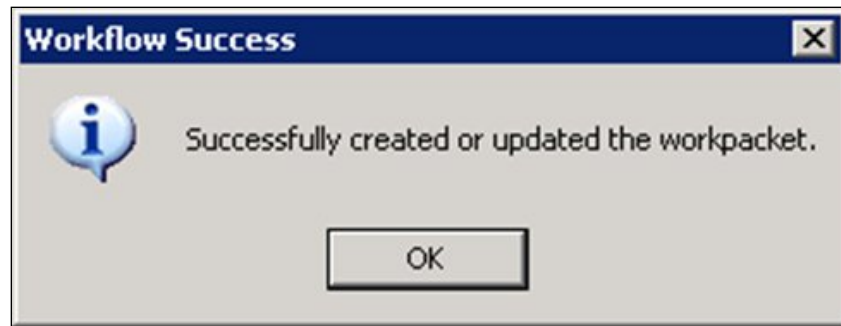

Figure 7-13: Workflow Success Message
8. Click the OK button. This will update the Receipt and Delegate work packet status to "COMPLETE." The next work packet in the workflow, Application Completeness Review, will be created by the system. A Workflow Success system message is displayed (Figure 7-13).